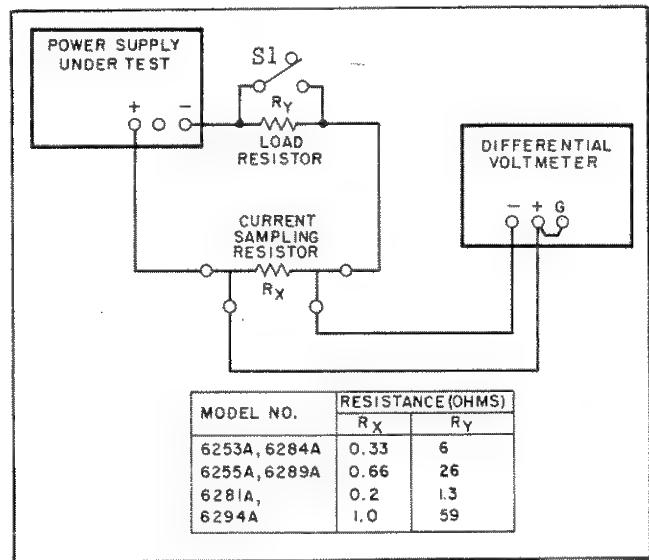

Figure 5-4. Output Current Test Setup
| Resistive Loads              | Values: See Paragraph 5-14 and Figure 5-4. $\pm 5\%$ , 75 watts.                                   | Power supply load resistors                           | ---                                                                                   |
- Connect test setup as shown in Figure 5-4 leaving switch S1 open.
- Connect test setup as shown in Figure 5-4.